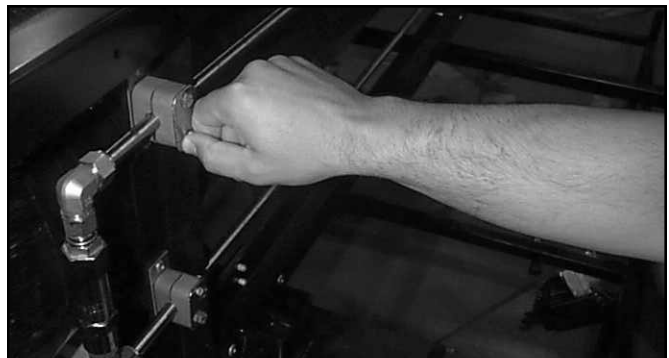

Figure 12-3 Line Clamps
- 4b. Loosen and remove all of the line clamps located on the PRD vertical supports (Figure 12-3).
Note: ENSURE THAT THE PRD IS INSTALLED IN DIRECTION OF GAS FLOW. See Figures 12-3 and 12-4 for correct orientation of the PRD. If the PRD is not pointed in the correct direction it will not work properly. An arrow on the PRD indicates the direction of gas flow through the PRD. This arrow must always point away from the high-pressure gas side of the fitting assembly.